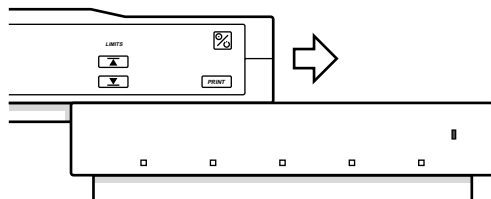

Figure 10: Connecting to the PSS External Power Supply
2. Connect the PSS to the N-3000 as shown in Figure 10.